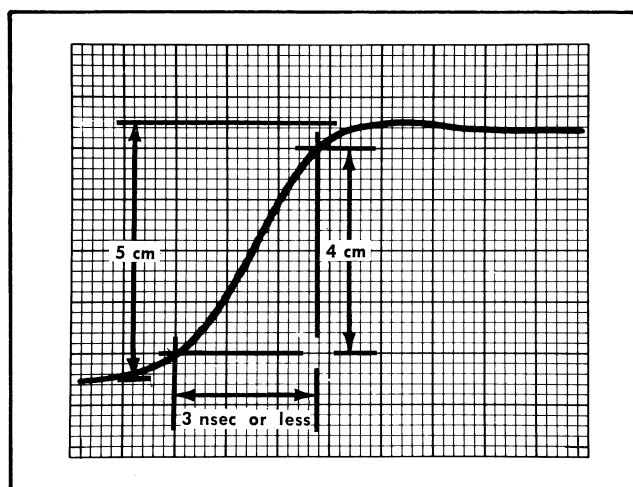

Fig. 6-3. Pulse Generator risetime check.
- g. Place the coupling capacitors (item 9 under "Equipment Required") on the Input connectors of the sampling oscilloscope.
- o. Check for a 10% to 90% risetime of 3 nsec or less (see Fig. 6-3).